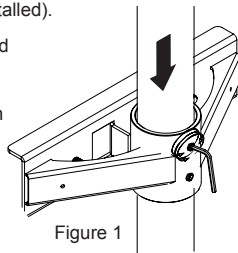

Figure 1
- To adjust to desired size, remove the pre-installed 3/8" x 1/2" button head screws with a 6mm allen key (shown in figure 1 to the right)
- 1) Slide your mounting arm adapter bracket over the pole and base (Figure 1) (not included, but should be previously installed).